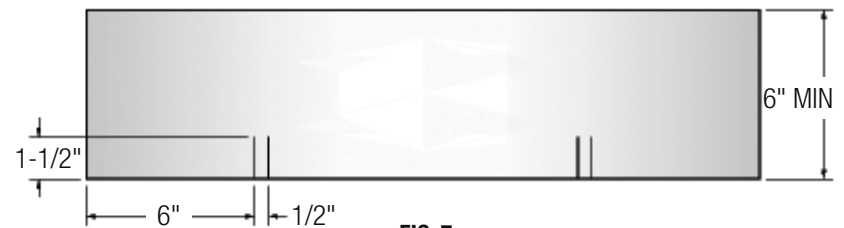

FIG. 7
- C) Cut 1-1/2" slits at each end of the flashing as shown below. (Fig. 7)